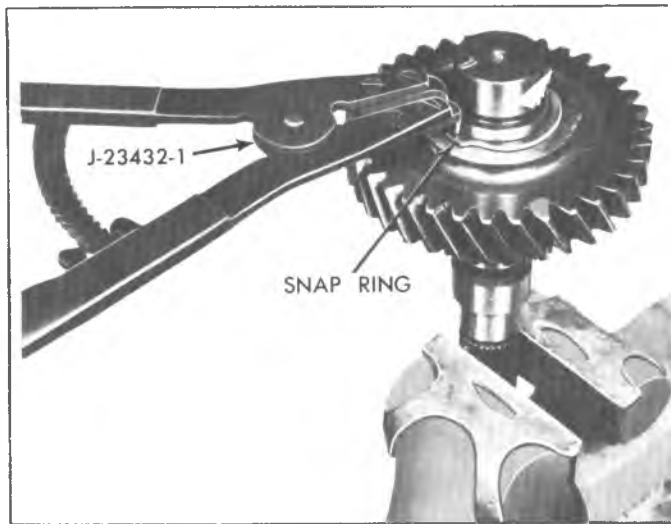

Fig. 5C--Removing Gear Retaining Ring
5. Using large snap ring picks, such as J-23432-1, remove the gear retaining ring from the shaft (Fig. 5C) and discard.